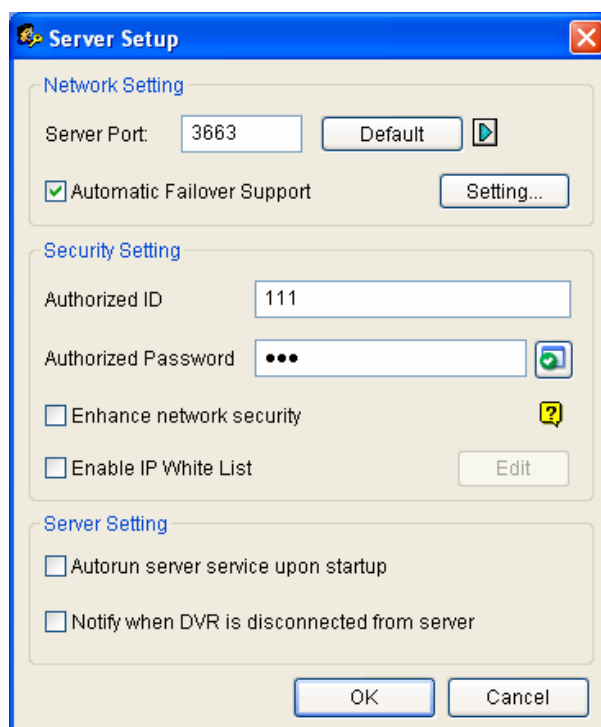

Figure 11-30 Server Setup
- ⑩ **Enable Remote Authentication:** Enable the connection with the Authentication Server.
- ⑩ **Allow local supervisors to disable Remote Authentication System:** Allows the local supervisor to stop the Authentication application when the connection with the Authentication Server fails. Note if the option is disabled and the connection with the Authentication Server fails, the local supervisor will not be able to log into the GV-System and the dialog box won't be accessible until connection resumes.
- ⑩ **Allow users to use local account to log in remote applications:** Allows the local users to access other remote applications with their previous password and ID settings when the connection with the Authentication Server fails.
- Click the **Set Up Server** button in Figure 11-30. This dialog box appears.
- Enter the IP address and port of the Authentication Server. Type the **Authorized ID** and **Authorized Password** of the Authentication Server (Figure 11-30).